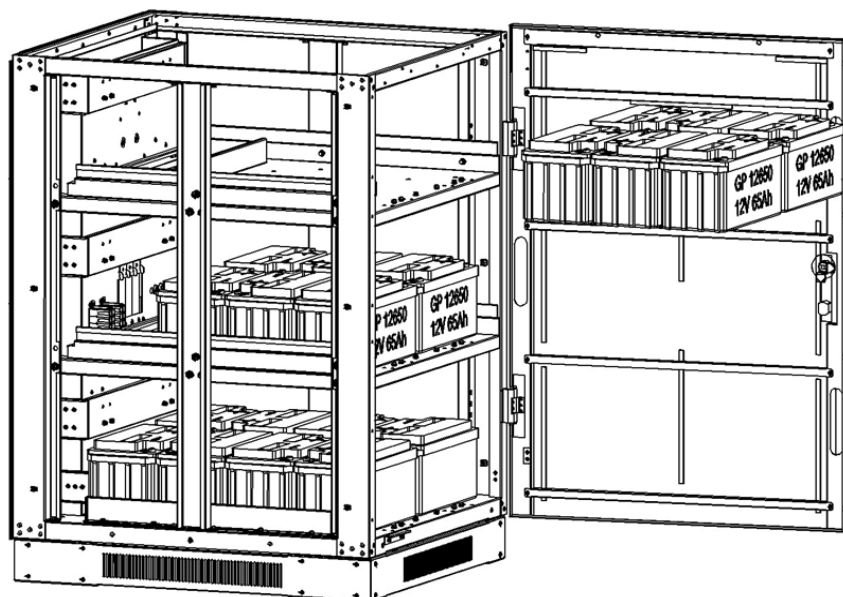
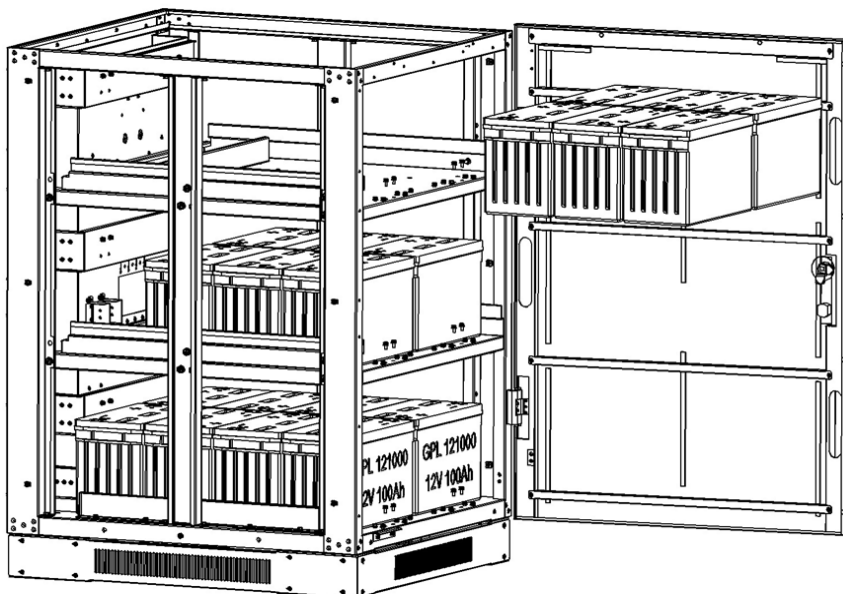

Figure 5-13: Model BP240V65-NIB
Figure 5-14: Model BP240V100-NIB
6. Install 6 battery packs in layer 3 (Figure 5-13: Model BP240V65-NIB or Figure 5-14: ModelBP240V100-NIB).